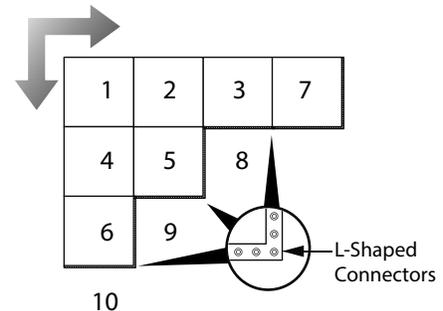

Figure 6
- 2) Ensure that the two factory applied "grout" edges (shown in Figure 6) are positioned facing into the main field of installation.